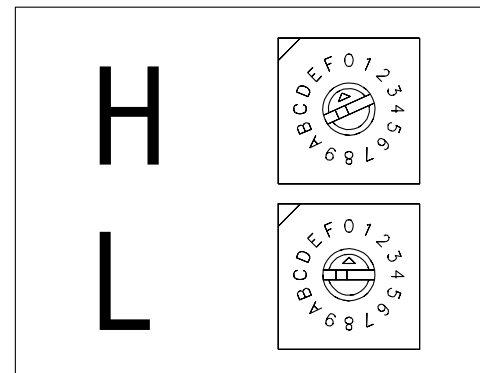

Figure 15: Address Switch Settings – Time Of Day Mode Enable
6. Rotate the L address switch to the "0" position (**Figure 15**). The "232" LED (DS1) will blink to show a change has been made:
7. To exit Diagnostics Mode, rotate the High address switch (H) to any value other than "F."